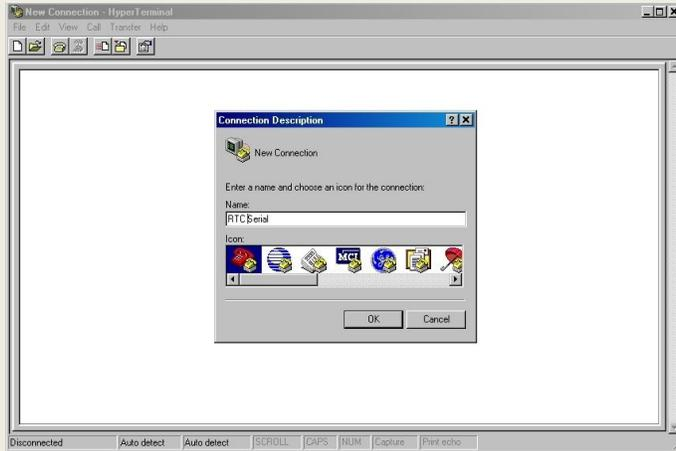

Fig. 8
2. When you run the program you will be asked to make a new connection. Make the connection and call it RTC Serial as shown in Fig. 8.